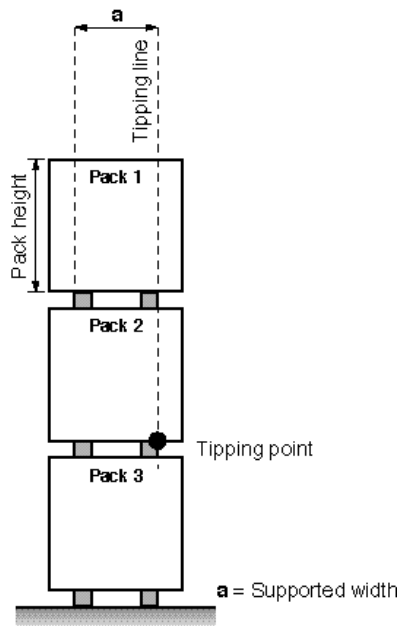

Figure 2 Supported width
- The same problem occurs if bearers are placed to run the length of the pack as shown in Figure 2. In this case the supported width of the pack is from the outside edge to outside edge of the bearers and the stack is less likely to be stable.